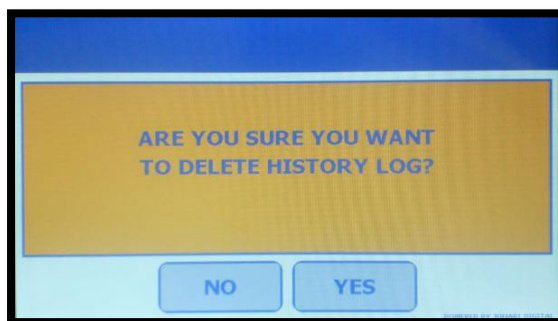

Figure V-39: Purge Confirmation Screen
9. The FP-24 5G prompts for “ARE YOU SURE YOU WANT TO DELETE HISTORY LOG?”. Press [YES] to erase (Figure V-39).